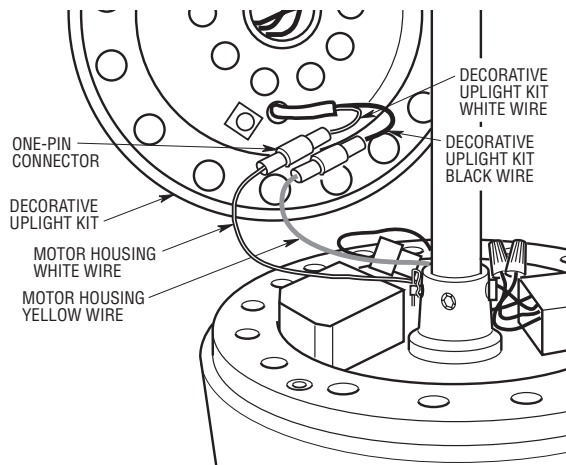

Figure 7
- 18. Engage the one-pin yellow wire from the motor housing to the one-pin black wire of the decorative uplight kit. Engage the one-pin white wire from the motor housing to the one-pin white wire of the decorative uplight kit (Figure 7).